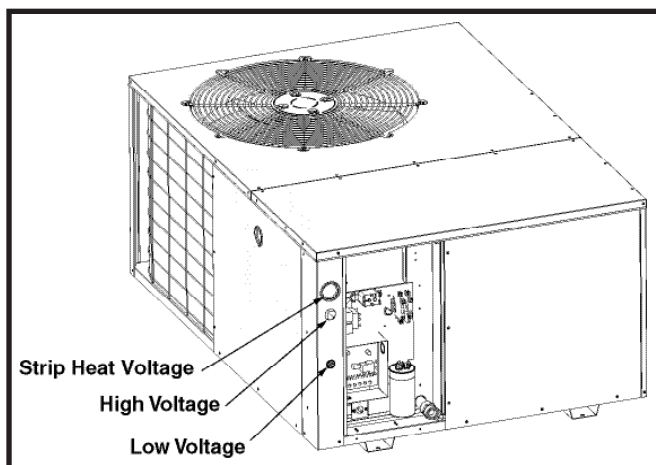

Figure 8. Power Entry
- Provide power supply for the unit in accordance with the unit wiring diagram, and the unit rating plate. Connect the line-voltage leads to the terminals on the contactor inside the control compartment. Extend leads through power wiring hole. See Figure 8. Connect **L1 & L2** directly to the contactor.
- The low voltage wires must be properly connected. Route 24V control wires through the sealing grommet near the power entrance. See Figure 8. Recommended wire gauge and wire lengths for typical thermostat connections are listed in Table 1.